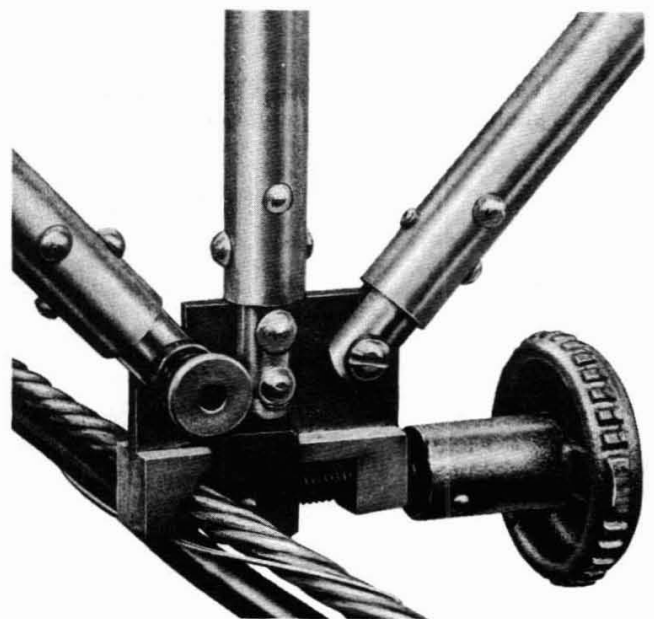

Fig. 4—Clamp Assembly
2.06 The frame of the tent consists of three aluminum alloy bows which are hinged at the corners to allow the legs to be folded either when storing the tent or preparing it for placing. The legs of the bows are attached to a clamp assembly (Fig. 4). The legs of the center bow are rigidly attached to the clamp assembly while the legs of the two outer bows are hinged to the clamp assembly to permit these bows to be folded against the center bow when required. One of the side bows may be detached from the clamp assembly to permit the tent to be mounted on the lower strand of multicable leads. The bow can be detached from the clamps, passed over the upper cable, and reattached to the clamps, so that the upper cable passes through the tent between the center bow and the detachable bow of the frame.